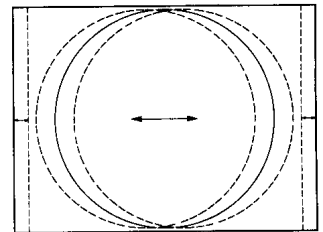

fig. 1
- Adjust the horizontal phase to obtain a position where no horizontal blanking appears on either side (Fig. 1).